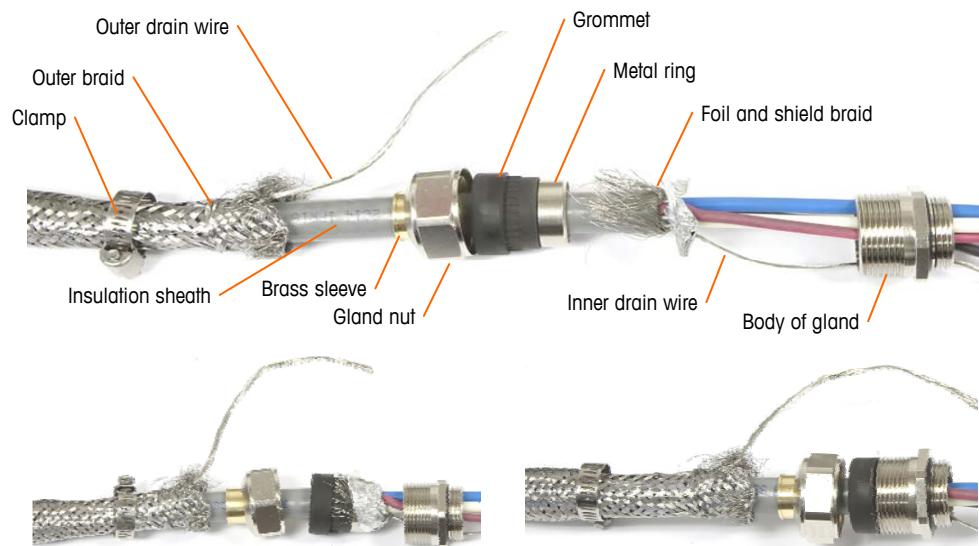

Figure A-48: PDX Home Run Cable and Gland Assembly
- a. Install the cable gland assembly, metal clamp and the brass sleeve onto the home run cable while sliding back the outer braid shield (Figure A-48). The inner drain wire should go into the enclosure through the cable gland, while the outer drain wire remains on the outside.
- b. Fold and spread out the inner braid shield and foil over the metal ring before pressing the grommet into the body of the cable gland, as shown in Figure A-48. Tighten the cable gland's nut with the brass sleeve onto the body of the gland.